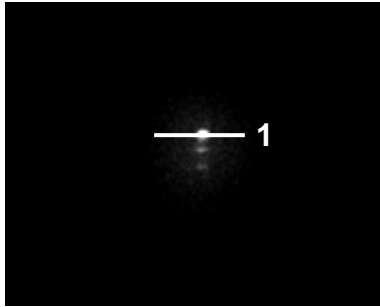

Figure 1
*Figure 1:* Image taken with the DLD exposed to a focused blue pulsed diode laser with 408 nm wavelength as well as a line scan deduced from the DLD image along line 1 (note: vertical weak spots are due to laser reflection at window).